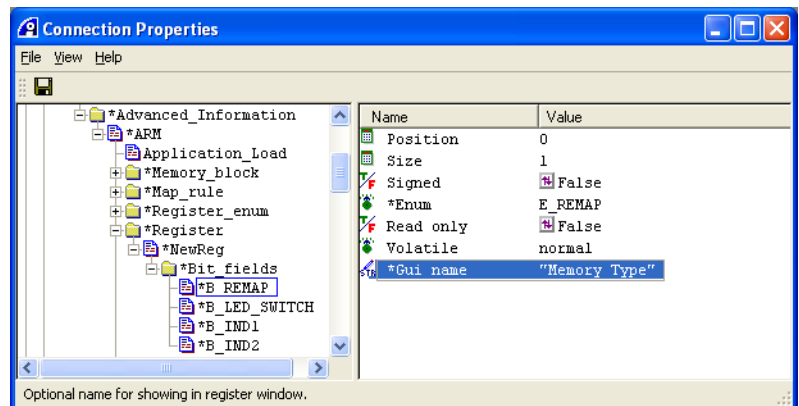

Figure 5-14 Creating bit field for a custom register
5. Select B_REMAP in the left pane and set the following values, shown in Figure 5-14: